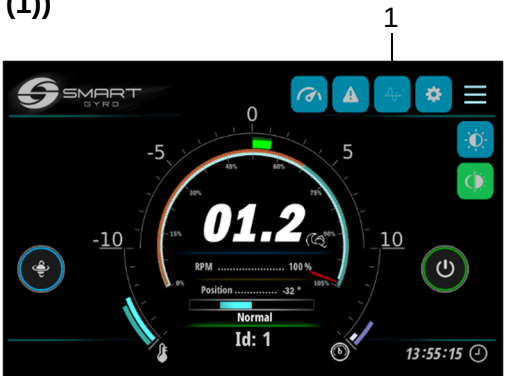

Figure 25
By pressing the Roll icon (Figure 25, (1))